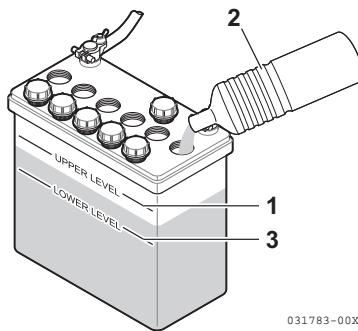

Figure 9
- When the amount of fluid nears the lower limit (**Figure 9, (3)**), fill with distilled water (**Figure 9, (2)**) so it is at the upper limit (**Figure 9, (1)**). If operation continues with insufficient battery fluid, the battery life is shortened, and the battery may overheat and explode. During the summer, check the fluid level more often than specified.